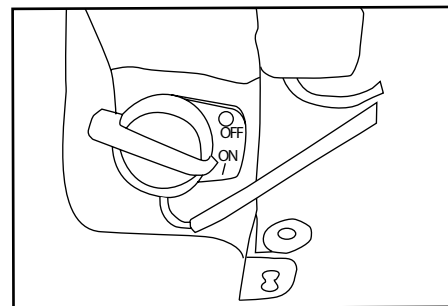

Fig 10. Engine ON/OFF Switch
4. Turn the engine switch (Figure 10) to the **ON** position.